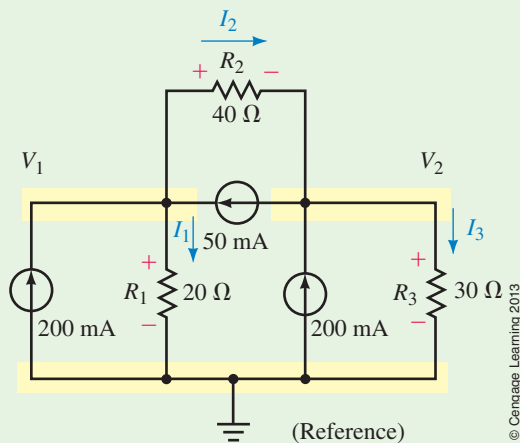

FIGURE 8-31
Step 2: Convert the voltage sources into equivalent current sources. The equivalent circuit is shown in Figure 8-31.